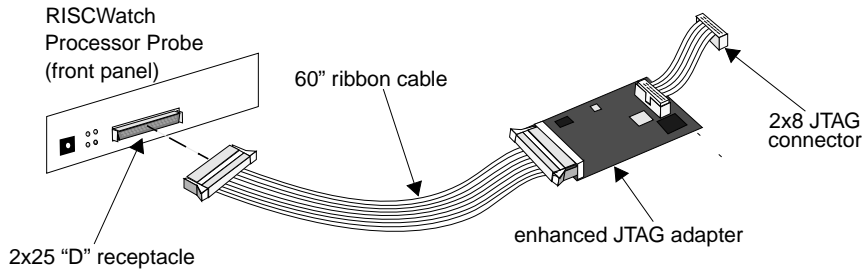

Figure 5-3. Enhanced JTAG Adapter Assembly
6. If your adapter assembly resembles Figure 5-3, you have what we refer to as an “Enhanced JTAG adapter assembly”. To assemble the adapter assembly and cables, perform the following steps:
- b. Attach the non-keyed side of the 2” cable to the 16 pin connector (See Figure 5-3).